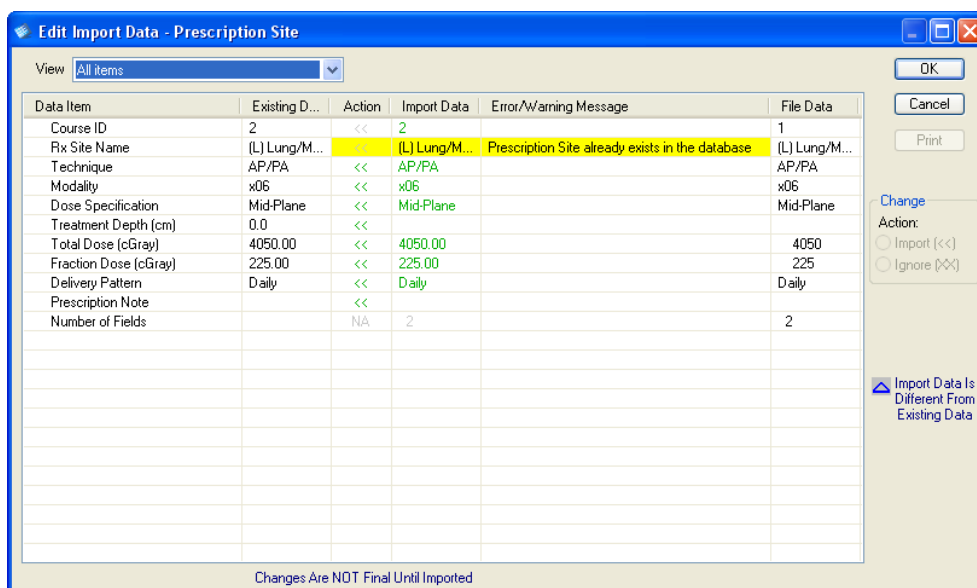

Figure 10: Edit Import Data Window – Fixed Data Item
- Type another value for the data item, then click in the window. Note the text appears in green to indicate that you can import the date without a conflict as shown in Figure 10.